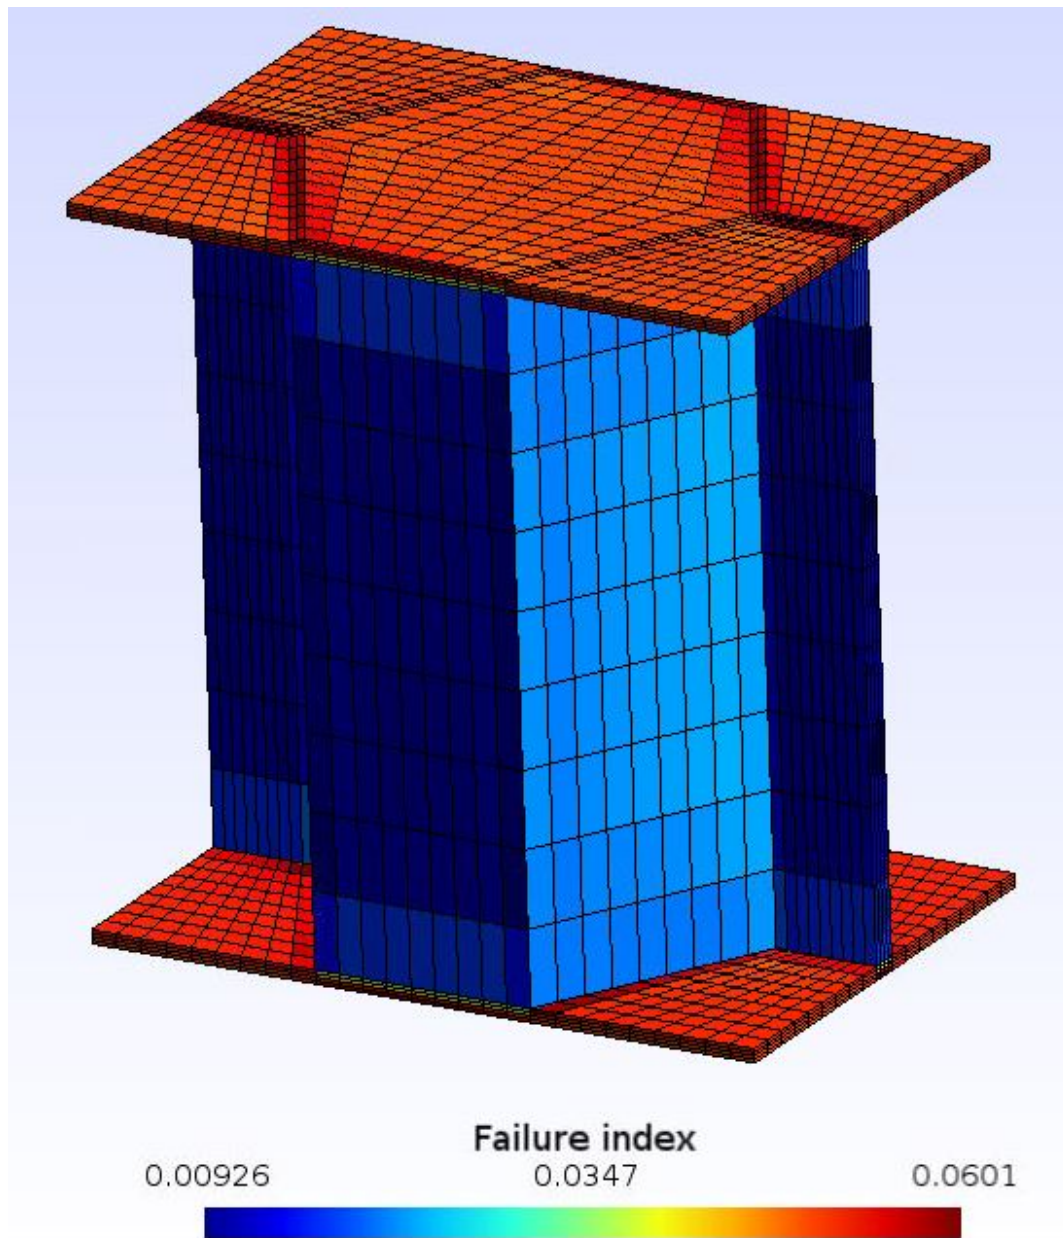

Fig. 11
* Click Run. The contour plots of the failure index and strength ratio under this loading condition is given as shown in Fig. 11 and 12.